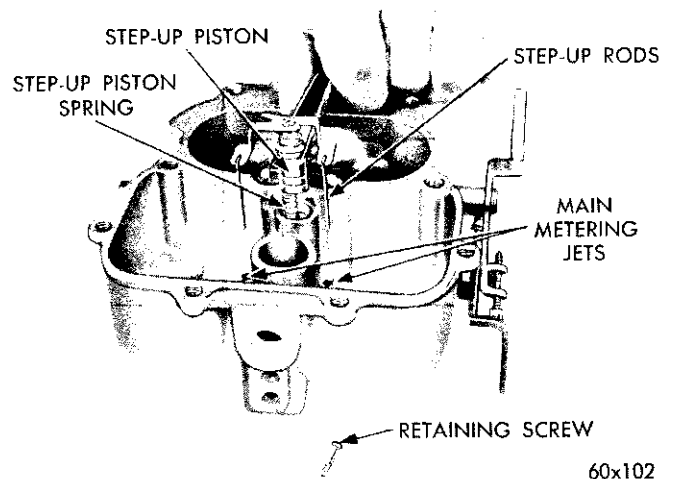

Fig. 7—Removing or Installing Step-Up Piston
well, as shown in Figure 7. Lift out the step-up piston spring. Remove the step-up piston gasket from the bottom of the well.
(8) Slide the step-up piston gasket down into position in the piston well, then install the step-up piston spring, step-up piston and rods. Carefully guide the step-up rods into the main metering jets. (Refer to Fig. 7). Install the retaining screw and tighten securely. Check piston for free operation in the well.